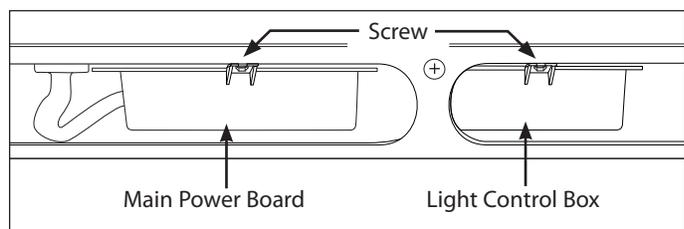

Figure 6-42.
3. Remove the toe grill from the bottom of the cabinet. The plastic box containing the power board will now be visible. (See Figure 6-42)